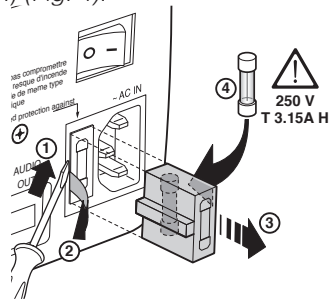

Fig. 4
- Only replace the safety fuse (on the power socket at the rear of projector) with a fuse identical in type and characteristics (T 3.15A H) (*Fig. 4*).